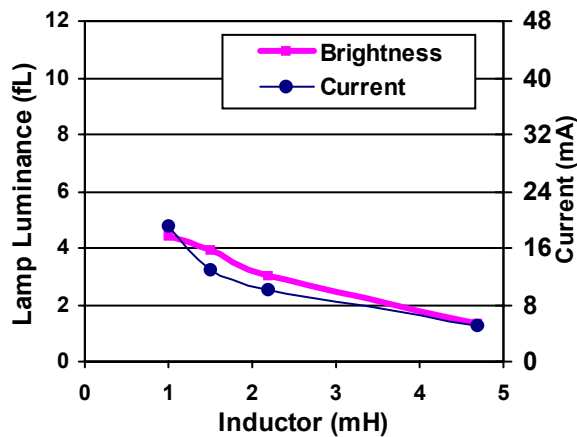

Figure 3: $V+ = 1.5V$, 1 in^2 EL Lamp
The external inductor (L) selection for a D355B circuit greatly affects the output capability and current draw of the driver. A careful designer will balance current draw considerations with output performance in the choice of an ideal inductor for a particular application. Figures 3, 4, and 5 show typical brightness and current draw of a D355B circuit with different inductor values, lamp sizes, and supply voltages while keeping the LF constant. Please note that the DC resistance (DCR) of inductors with the same nominal inductance value may vary with manufacturer and inductor type. Thus, inductors made by a different manufacturer may yield different outputs, but the trend of the different curves should be similar. Lamp luminance is also a function of lamp size. In each example, a larger lamp will have less luminance with approximately the same current draw.